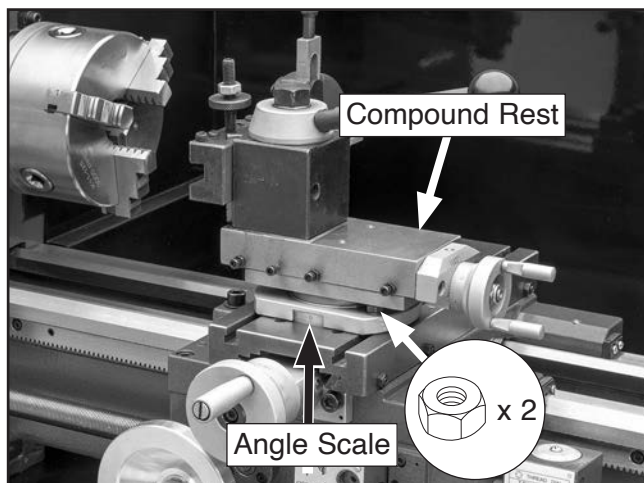

Figure 65. Location of compound rest base hex nuts.
1. Loosen (2) hex nuts at base of compound rest (see **Figure 65**).
2. Rotate rest to desired angle, as indicated by scale on base (see **Figure 65**), then tighten hex nuts to secure.